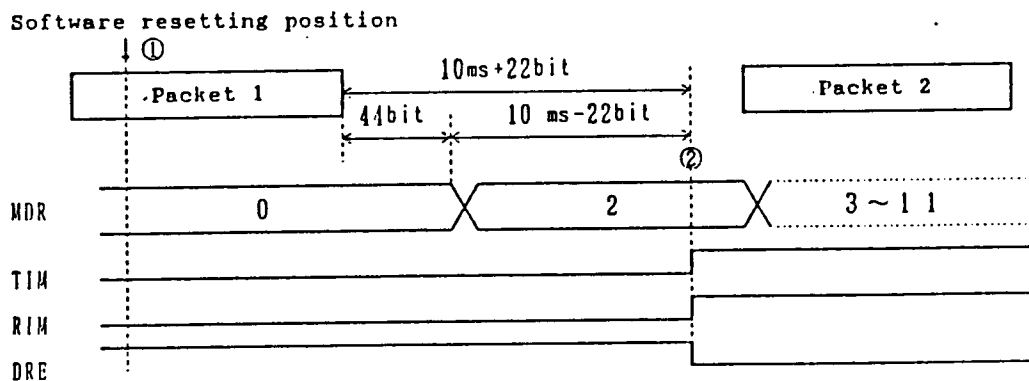

Figure 4.13 Sending/receiving interrupt mask flag operation upon resetting
Figure 4.13 shows operations of the sending and receiving interrupt mask flags upon software resetting. Software resetting is performed at Figure 4.13 ①. In this case, the packet end is searched while the state counter is "0" when data is provided, then the synchronization recovery period ends at the point $10\text{ ms} + 22\text{ bits}$ later (Figure 4.13 ②) and interrupt is applied thereafter.